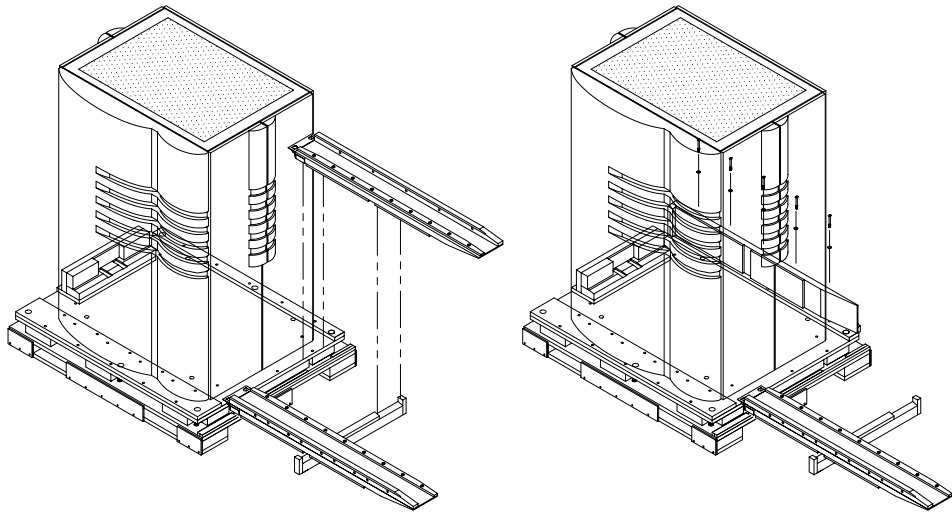

FIGURE 5-12 Aligning the Cabinet on the Pallet
7. **Align the cabinet on the pallet (FIGURE 5-12).**